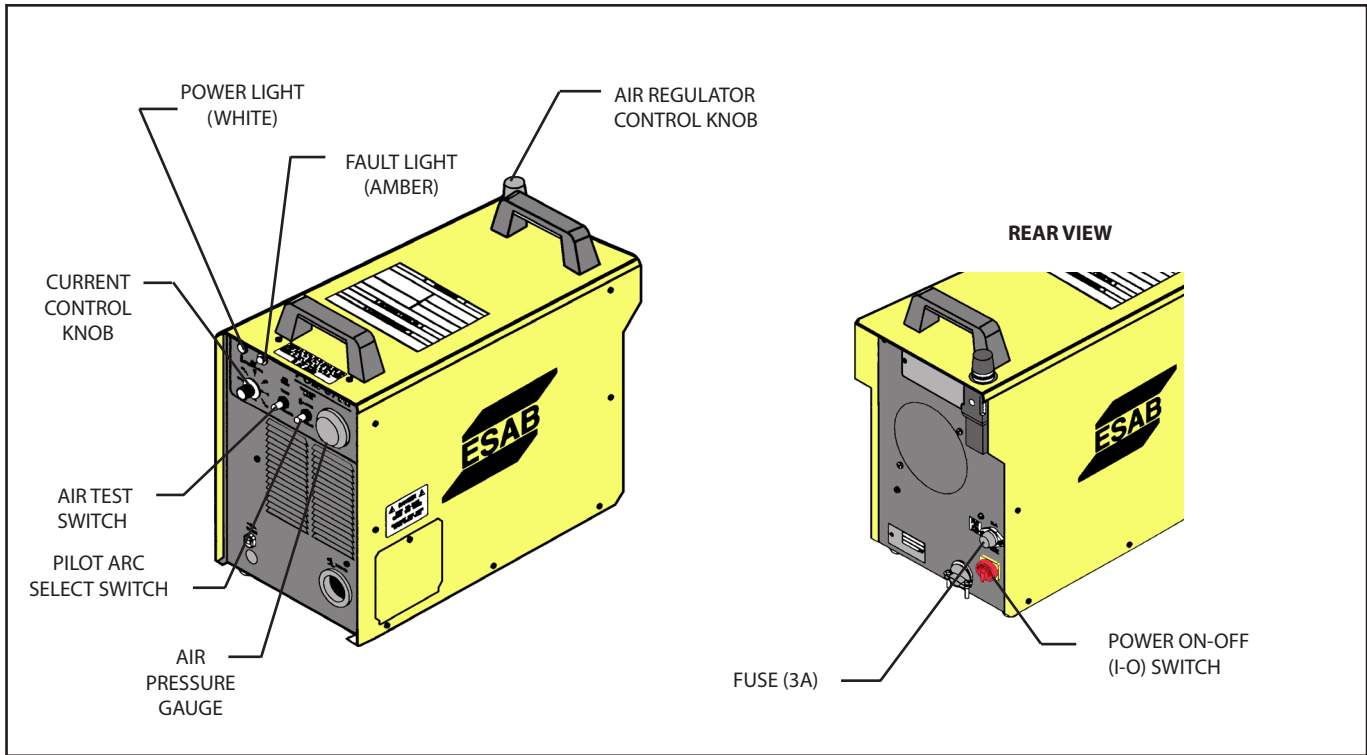

Figure 4-1. ESP-50 Controls
4.1 ESP-50 CONTROLS (FIGURE 4-1)
To assemble the consumable parts, refer to Figure 4-1.